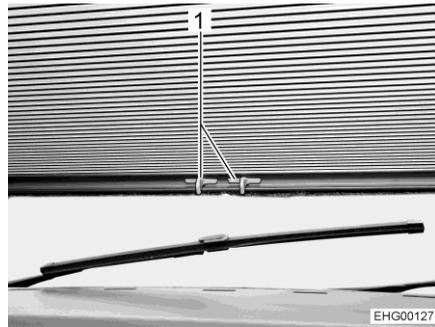

Fig. 29 Roman shade (windscreen)
- Closing: ■ Press handles (Fig. 29,1) together and pull shade downwards.